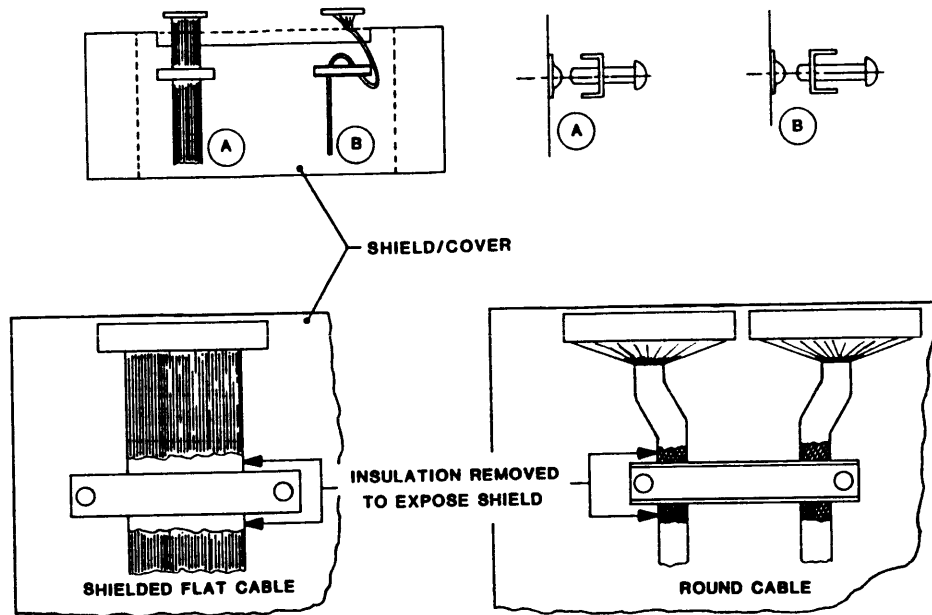
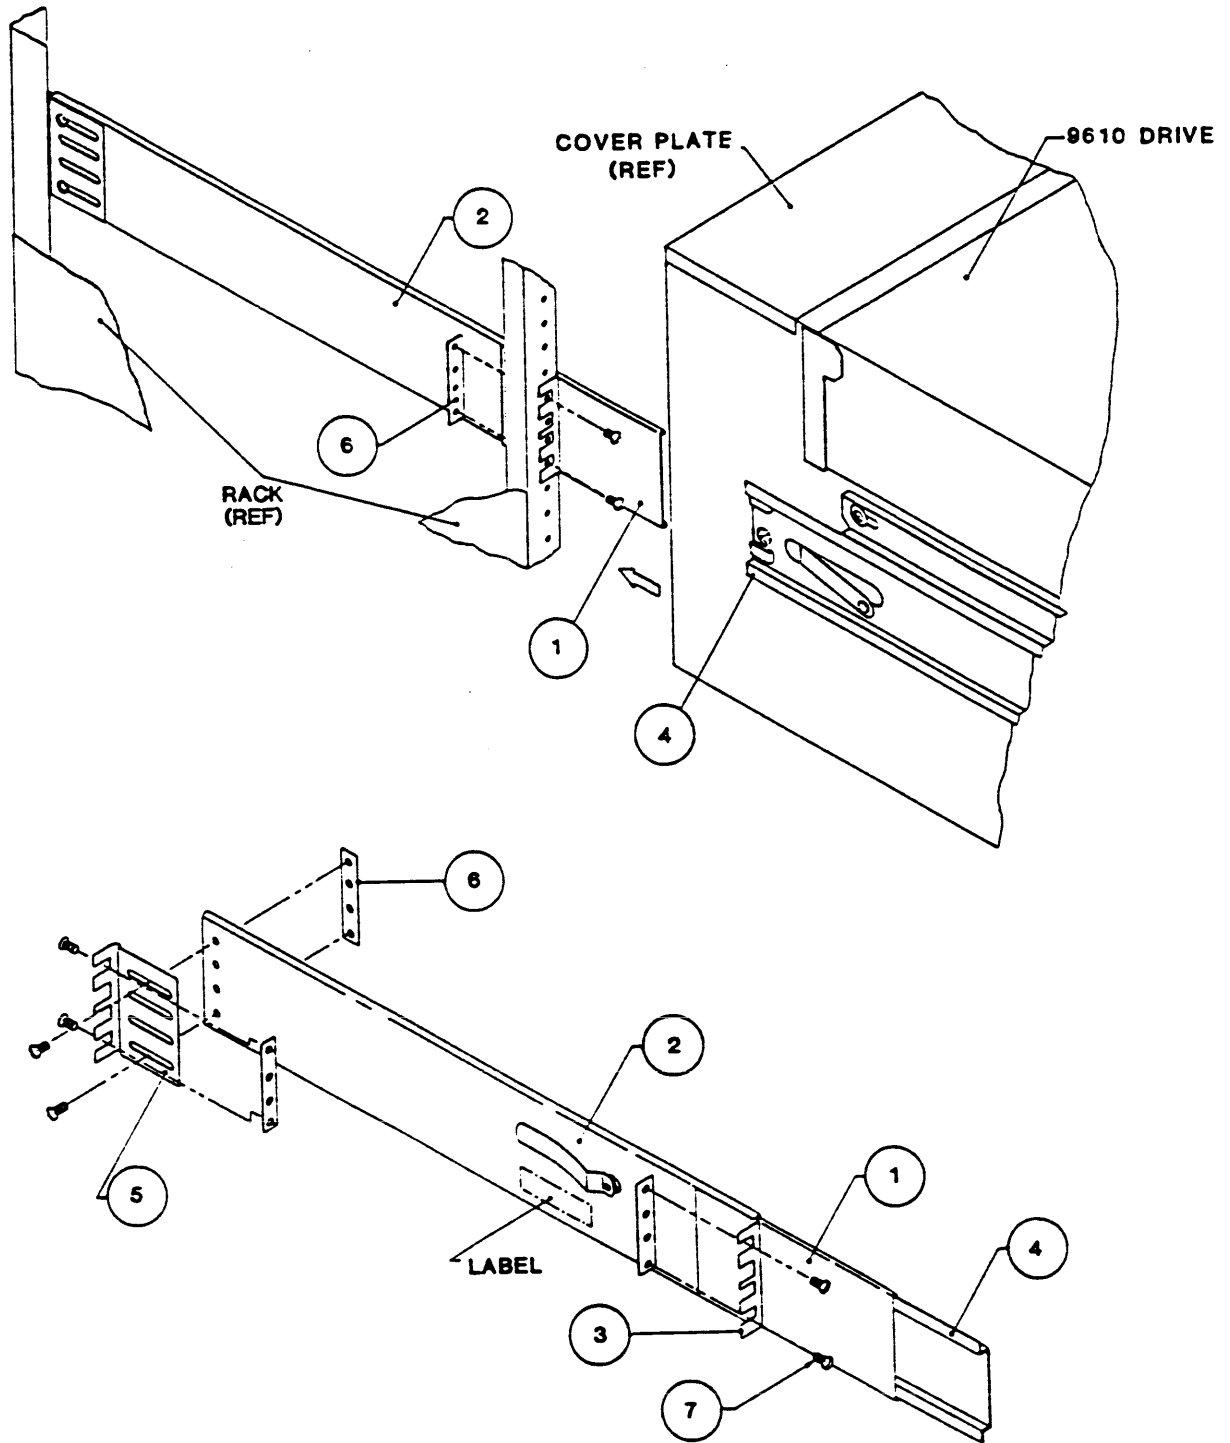

Figure 2-3. Grounding Cable Clamp Details
Figure 2-8. Track Subassembly
Recommended connectors and cables are as follows: - Daisy chains may optionally require a Cable Connector Adapter (See Figures 2-3 and 2-5).
- A. Install one of the Track Assemblies (Figure 2-8) on either side of the 19-inch Rack as follows:
1. Using the 10-32 Slotted Screws (7) and Nut Plates (6)* provided, loosely assemble an Adjustable Mounting Bracket (5) to the rear of the Right Track Assembly.
3. Aligning the bottom of the Fixed Mounting Bracket (3) at the 2-inch mark on the front of the 19-inch Rack, and using the 10-32 Screws (7) provided, mount the Fixed Mounting Bracket (3) to the front of the 19-inch Rack, and mount the Adjustable Mounting Bracket (5) (loosely attached to the rear of the Center Track) to corresponding holes in the rear of the 19-inch Rack. Level the Track and tighten all Screws.
- E. Remove about an inch of insulation from each Interface Cable at a point where the Cable will pass under the Grounding Cable Clamp(s). This will expose the cable shield. Run the Interface Cables under the Cable Clamp(s) as illustrated in Figure 2-3. Tighten the Clamp(s).